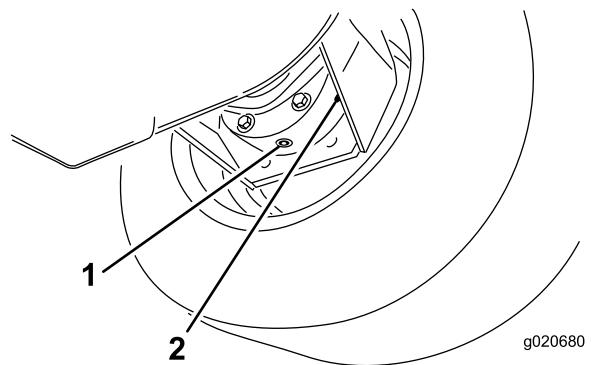

Figure 104
3. Place a drain pan under the brake housing, remove the drain plug, and allow the oil to drain (Figure 104).